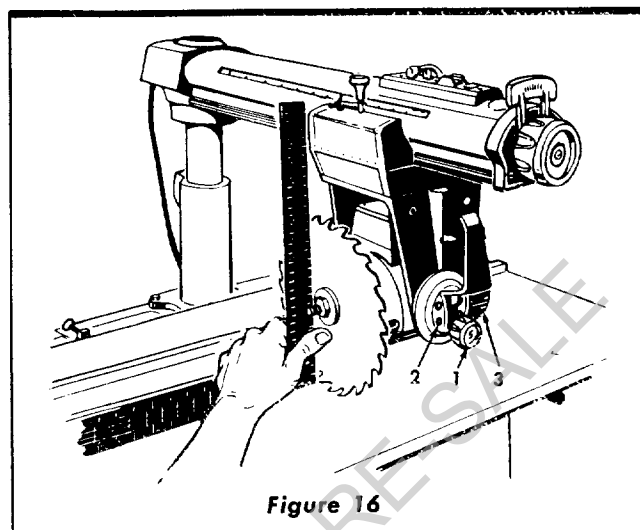

Figure 16
1. Place the edge of a framing square on the table top and against the saw blade as shown in figure 16.
- a. Using a 1/4-inch hex "L" wrench, loosen just slightly the four socket-head screws (2, figure 16).
**NOTE:** It will be necessary to loosen the bevel lock knob (1, figure 16) several turns in order to provide room for inserting the Allen wrench into heads of socket-head screws (2).
- b. Tilt the motor until the saw blade is square with the table top as shown in figure 16. Then, while holding the square firmly against the saw blade and table top, apply pressure against lower part of saw blade with the thumb until approximately 1/32-inch clearance exists between the square and lower edge of saw blade. This is to compensate for the possible slight shifting of the motor while screws (2) are being tightened.
- c. Tighten the socket head screws (2, figure 16) and bevel lock knob (1).
- e. The indicator (3, figure 16) should read 0° on the bevel index scale. If not, loosen the indicator attaching screw, adjust indicator to zero and tighten screw securely.